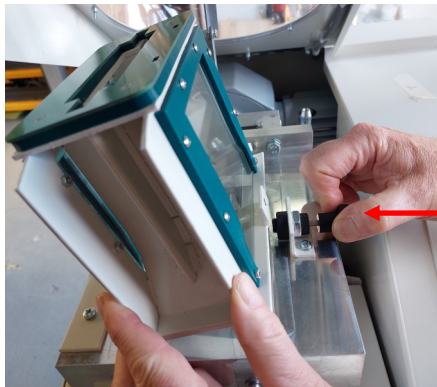

Figure 15
2. The safety glass box assembly can now be hinged to the side by pulling the round knob to extract the locking pin see figure 15 and 16.